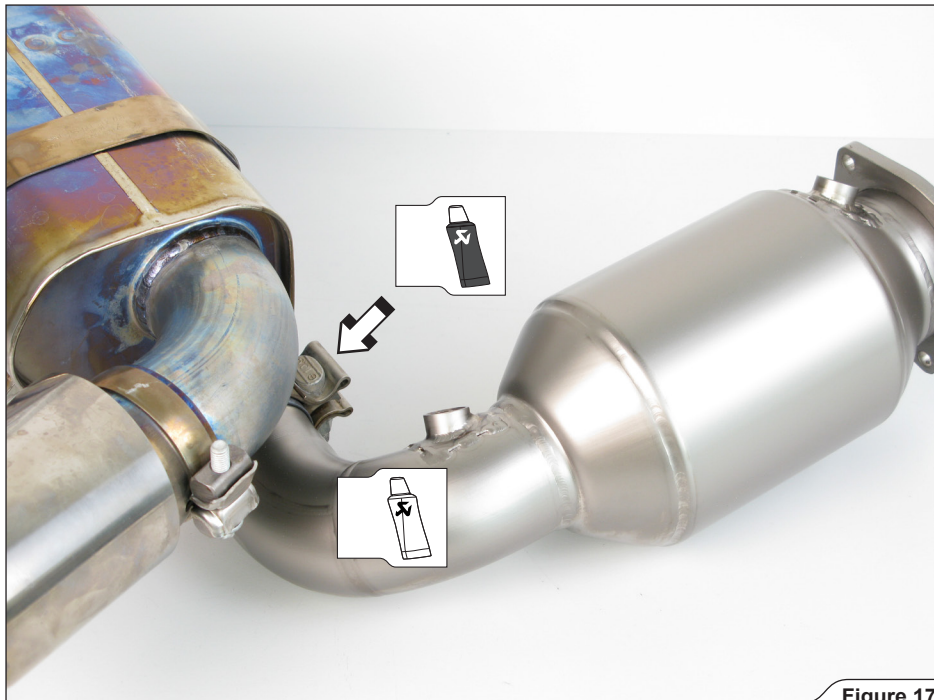

Figure 17
3. **For Upgrade Kit1/2:** coat the bolts of metal clamps with anti-seize copper paste (black tube) and correctly install the metal clamp onto the muffler and insert the Link-Pipe as shown (**Figure 17**). Perform the process on both sides of the muffler.